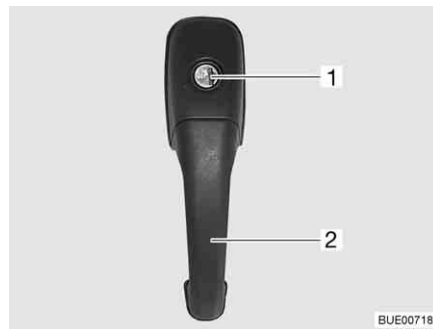

Fig. 44 Door lock of conversion door, outside
- Insert the key into locking cylinder (Fig. 44,1) and turn until the door lock is unlatched.
- Pull on the handle (Fig. 44,2). The door is open.
- Insert the key into locking cylinder (Fig. 44,1) and turn until the door lock is engaged.